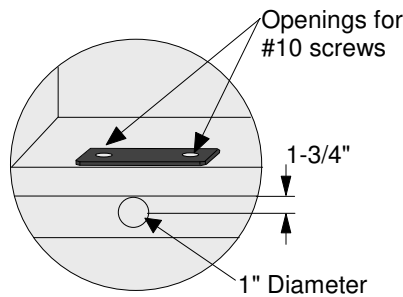

FIG. 1
1. Apply top mounting plate at the edge of the cabinet and mark position of mounting screws. Drill two holes for #10 screws. (13/64"). (FIG.1)
Measure 1-3/4" from the bottom of cabinet aligned with the top mounting plate, drill 1" hole under the cabinet plate. (FIG.1)